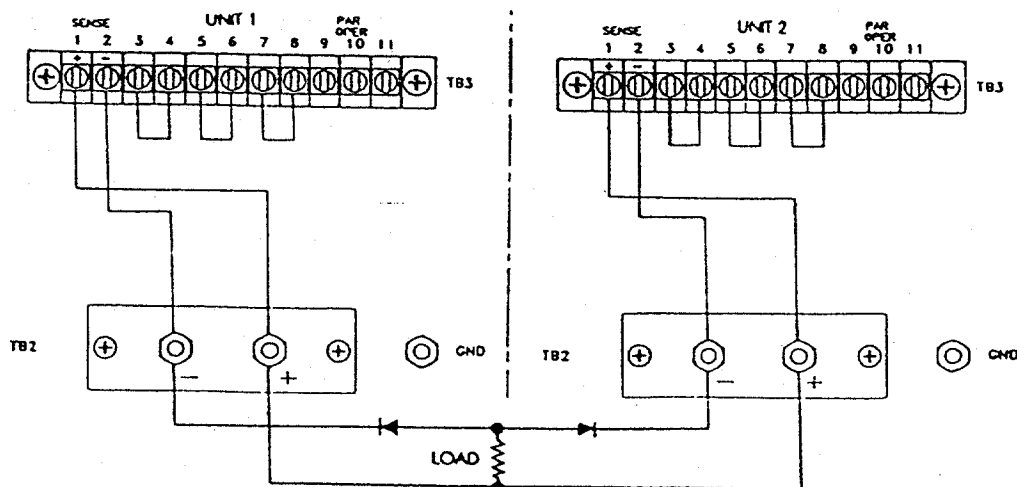

Figure 3-8 Direct Parallel Connections
3.4.1 Direct Paralleling (Figure 3-8)
Parallel operation requires protective diodes. See Figure 3-8 and 3-9.
If the DCR-B2 is used with an energy storage type of load (e.g., batteries or large capacitor or inductor banks) protective diodes must be used in series with the negative load lead as shown in Figures 3-8 and 3-9. This precaution must be taken to prevent energy stored in the external device or load being absorbed by the OVP crowbar SCR. Due to the limited energy capabilities of the SCR, damage could occur to the SCR and, perhaps, the load.